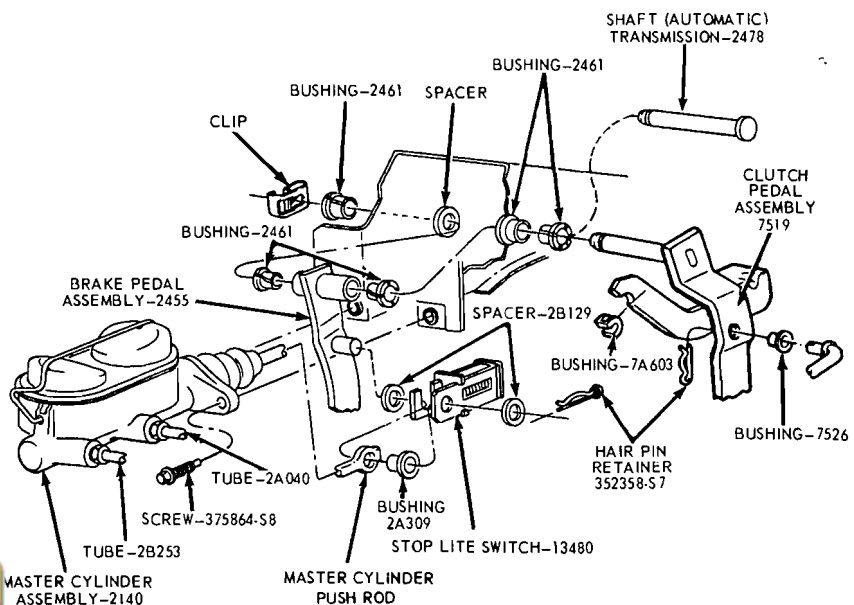

FIG. 25—Dual-Brake System Master Cylinder Installation—Mustang and Cougar Without Power Brakes
5. Slide the master cylinder or booster push rod and the nylon washers and bushing off from the brake pedal pin (Figs. 25 and 26).
6. Remove the self-locking pin and washer from the clutch and brake pedal shaft, then remove the clutch pedal and shaft assembly, the brake pedal assembly, and the bushings from the pedal support bracket (Figs. 25 and 26).
2. Position the brake pedal to the support bracket, then install the clutch pedal and shaft assembly through the support bracket and brake pedal assembly. Install the spring clip (Figs. 25 and 26).
5. Install the inner nylon washer, the master cylinder or booster push rod, and the bushing on the brake pedal pin. Position the switch so that it straddles the push rod with the switch slot on the pedal pin and the switch outer hole just clearing the pin. Slide the switch completely onto the pin, and install the outer nylon washer as shown in Figs. 25 and 26. Secure these parts to the pin with the self-locking pin.
2. Remove the self-locking pin and slide the stop light switch off the brake pedal pin **just far enough for the switch outer hole to clear the pin.** Then lower the switch away from the pin. Slide the master cylinder or booster push rod and the nylon washers and bushing off from the brake pedal pin (Fig. 25 and 26).
1. Apply a coating of SAE 10 engine oil to the bushings and locate all the bushings in their proper places on the pedal assembly and pedal support bracket (Fig. 25).
3. Install the inner nylon washer, the master cylinder or booster push rod, and the bushing on the brake pedal pin. Position the switch so that it straddles the push rod with the switch slot on the pedal pin, and the switch outer hole just clearing the pin. Slide the switch completely onto the pin, and install the outer nylon washer as shown in Fig. 25. Secure these parts to the pin with the self-locking pin.